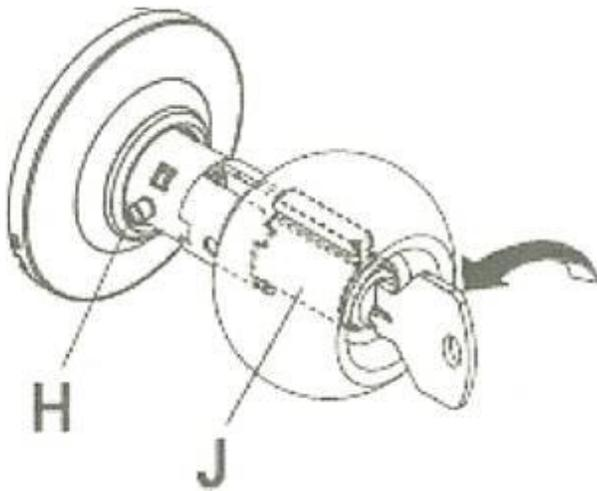

FIGURE 9-2
Install Hardware	<ol style="list-style-type: none"><li>4. Install lockset and strike plate per instructions.<ol style="list-style-type: none"><li>a. Be sure door latches easily but tightly with little rattle</li><li>b. If it rattles. Bend tab inside the strike plate with flat blade screwdriver</li></ol></li><li>5. Install the security deadbolt strike plate (not that provided with lockset).<ol style="list-style-type: none"><li>a. Set strike plate in place, predrill into Jack stud with 3/16" bit, secure with two large screws provided</li><li>b. Make sure deadbolt is installed so top of lever turns in the direction of bold travel. If it does not, remove deadbolt from door, rotate 180° and reinstall</li></ol></li><li>6. Install lockset per instructions and make sure lockset and deadbolt key direction is the same (notches up). See Fig. 9-2 (Reverses side). If not:<ol style="list-style-type: none"><li>a. Unlock the lock and insert the key half-way (do not insert completely)</li><li>b. Push in retainer pin (H) on neck of knob, pull knob just past the pin</li><li>c. Holding knob, rotate cylinder (J) to correct orientation</li><li>d. Push in pin and push knob back in place.</li></ol></li><li>7. Verify Lockset and deadbolt operation. Adjust as needed for easy operation, door closes snugly, latches with little effort, deadbolt engages/disengages easily and moves in same direction as top of lever (Fig. 9-2 next page)</li></ol>